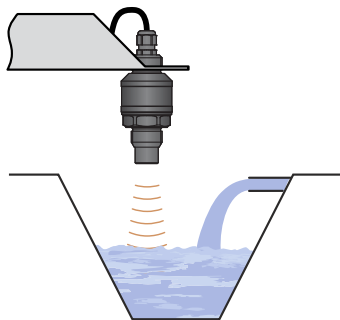

Fig. 10: wavy level
- The ultrasonic signal can be scattered or attenuated if the level is **moderately stirred or rippled** (due to a mixer, inflow of liquid, etc.). This may result in reduction of the measurement range or unreliable operation of the device (Fig. 10).
- False level reflections of the ultrasonic signal and unreliable operation of the device might result from the mixer's **rotating blades** that ripple the level (Fig. 10). **For a rippled or swirling level, you can use the directional horn to eliminate scattering of the ultrasonic signal.**